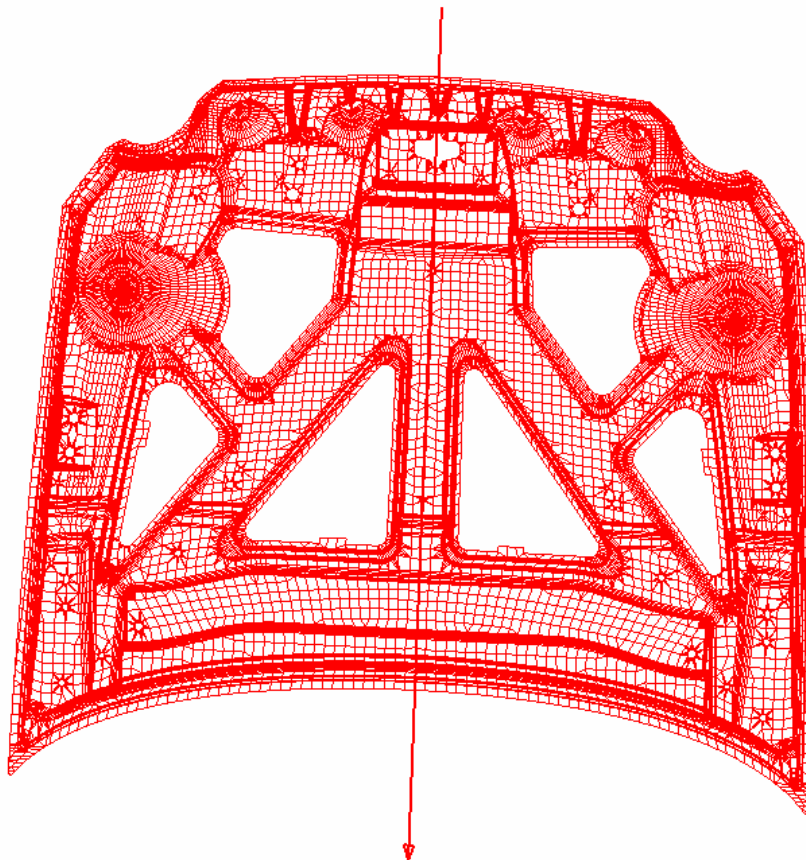

Figure 19 Part mesh after symmetry operation
11. As illustrated in Figure 19, the other half of the hood inner is mirrored.